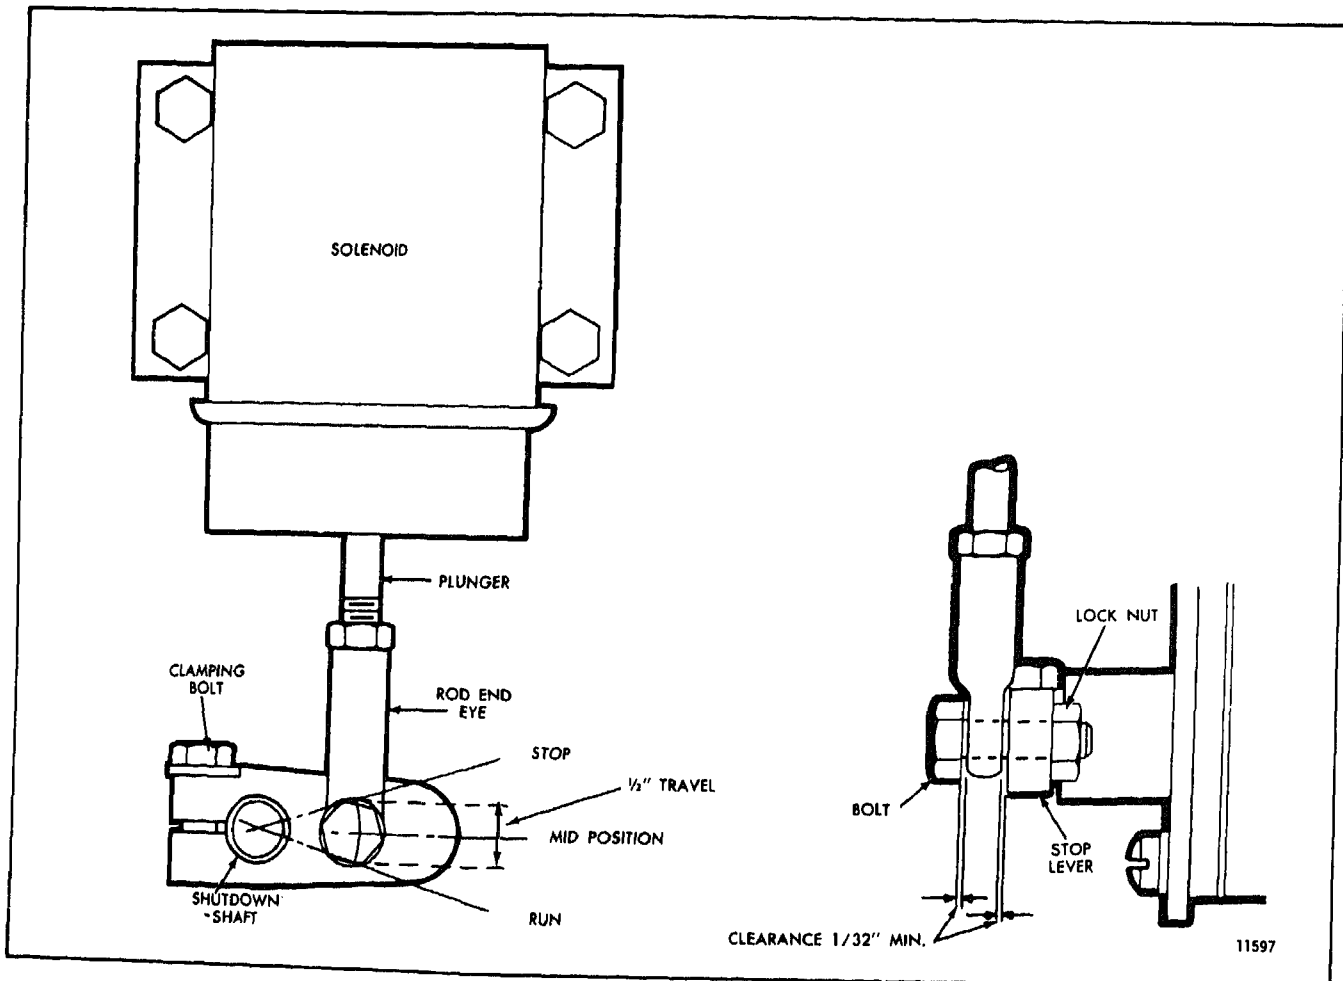

Fig. 6 - Typical Variable Speed Governor Lever Position
1. Remove the bolt connecting the rod end eye (variable speed governor), or the right angle clip (limiting speed governor) to the stop lever (Figs. 6 and 7). Align and clamp the lever to the shutdown shaft in such a way that, at its mid-travel position, it is perpendicular to the solenoid plunger. This assures that the linkage will travel as straight as possible. The solenoid plunger has available 1/2" travel which is more than adequate to move the injector control racks from the full-fuel to the complete no-fuel position and shutdown will occur prior to attaining complete travel.